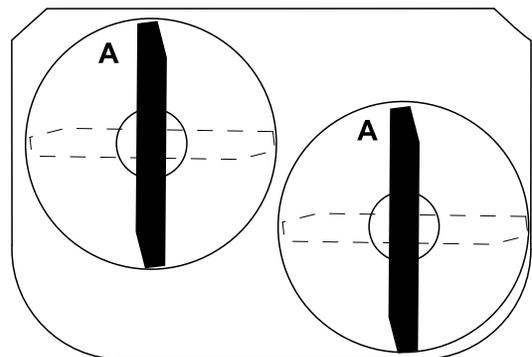

Figure 52
1. Rotate the blades until the ends face forward and backward (Figure 52).